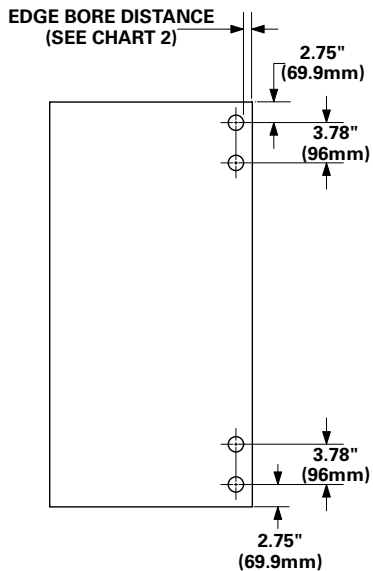

figure 3
- Position the slide channels into the molded rack using the indexing pin on the back of the molded rack through the 1/4" dia. hole on the rear of the slide channel (fig. 3). Confirm that the slide assemblies are parallel to case edge and then mount the assemblies to the case side by driving screws through the slide assembly.